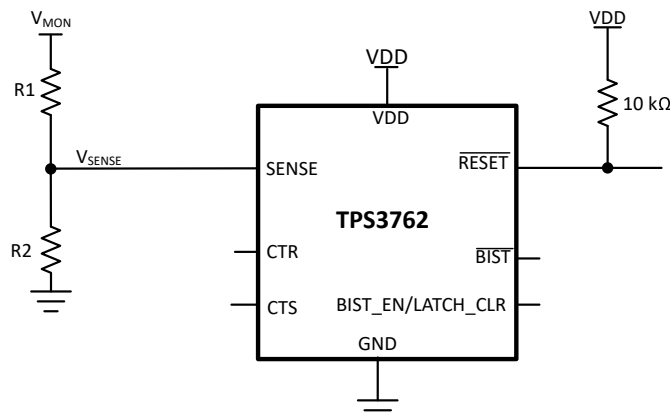

图 8-1. Adjustable Voltage Threshold with External Resistor Dividers
图 8-1 illustrates an example of how to adjust the voltage threshold with external resistor dividers. The resistors can be calculated depending on the desired voltage threshold and device part number. TI recommends using the 0.8 V voltage threshold device when using an adjustable voltage variant. This variant bypasses the internal resistor ladder.
For example, consider a 12 V rail,  $V_{MON}$ , being monitored for overvoltage (OV) using of the TPS3762D02OVDDFR variant, as shown in 图 8-1. The monitored OV threshold, denoted as  $V_{MON+}$ , is the desired voltage where the device asserts the reset. For this example  $V_{MON+} = 35$  V. To assert an overvoltage reset the voltage at the sense pin,  $V_{SENSE}$ , needs to be equal to the input threshold positive,  $V_{ITP}$ . For this example variant  $V_{SENSE} = V_{ITP} = 0.8$  V. Using  $R_1$  and  $R_2$  the correlation between  $V_{MON+}$  and  $V_{SENSE}$  can be seen in 方程式 8. Assuming  $R_2 = 10$  k $\Omega$ , and  $R_1$  can be calculated as  $R_1 = 427.5$  k $\Omega$ .